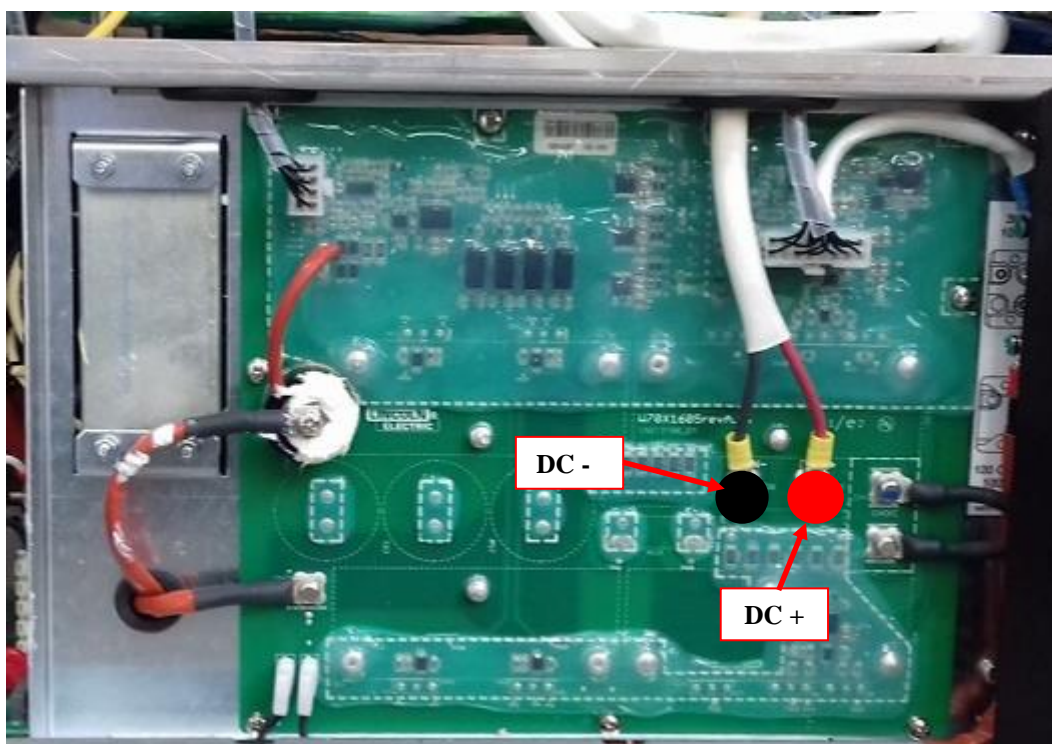

Figure 1 – W05X1605 Inverter Board located on the right side of the machine
5. Locate the two terminals **DC+** and **DC -** on the Caps Board (See Figure 1).